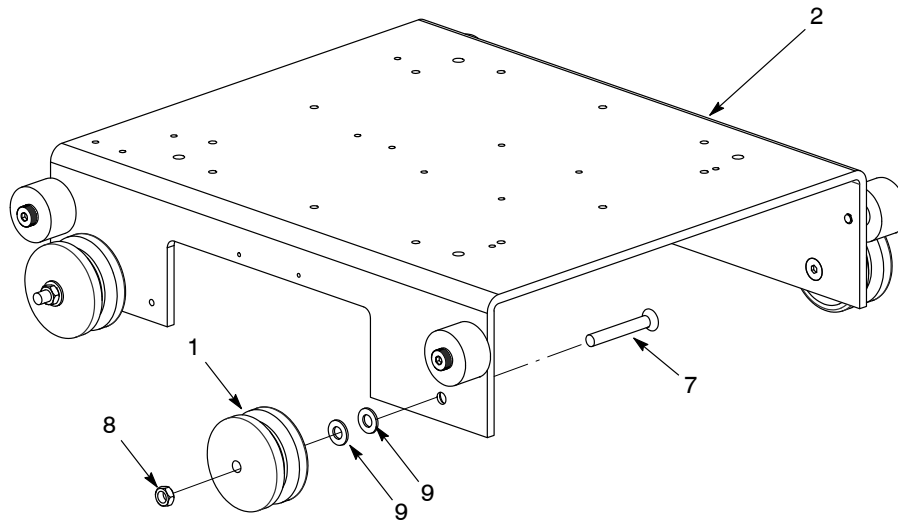

Figure 16 Removing V-Groove Wheel
4. See Figure 16. Using an allen wrench, remove the flat head screw, flat washers, and hex nut from the V-groove wheel.